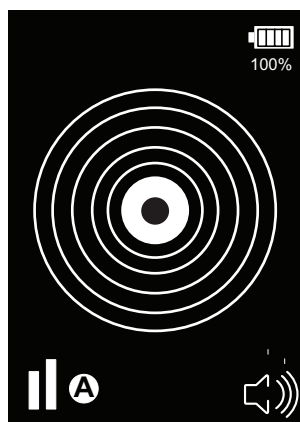

Fig. 7: Alarm indication display
- If refrigerant is detected, the sound will increase in rate and pitch and the display will show concentric rings increasing outward from the center as the concentration of refrigerant increases (see Fig. 7).